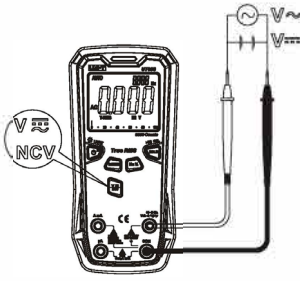

Figure 2
1. AC/DC Voltage Measurement (Figure 2)